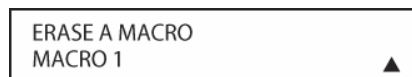

Figure 64
- The next display screen (**Figure 64**) is where you select which macro will be erased. Press the **▼/▲ Navigation Button [oval 16]** until the number of the macro (M1, M2, M3) you wish to erase appears. For this example we will erase Macro 1 created in the previous section. When the name of the macro to be erased appears, press the **Set Button [oval 18]**.